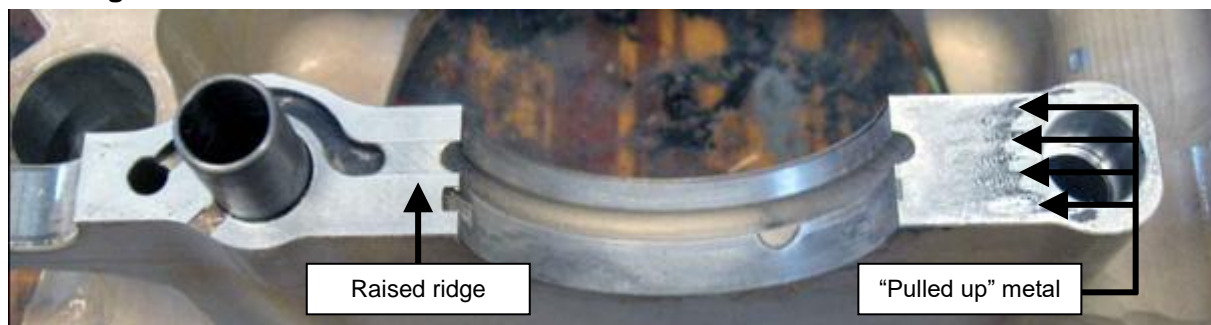

Figure 213 – Crankcase Fretting
- Cases which have suffered fretting can be identified as shown in Figure 213. There will be characteristic markings on the crankcase joining face near the main bearing journals which can be felt by scratching with a fingernail – the raised portions will be clearly evident.